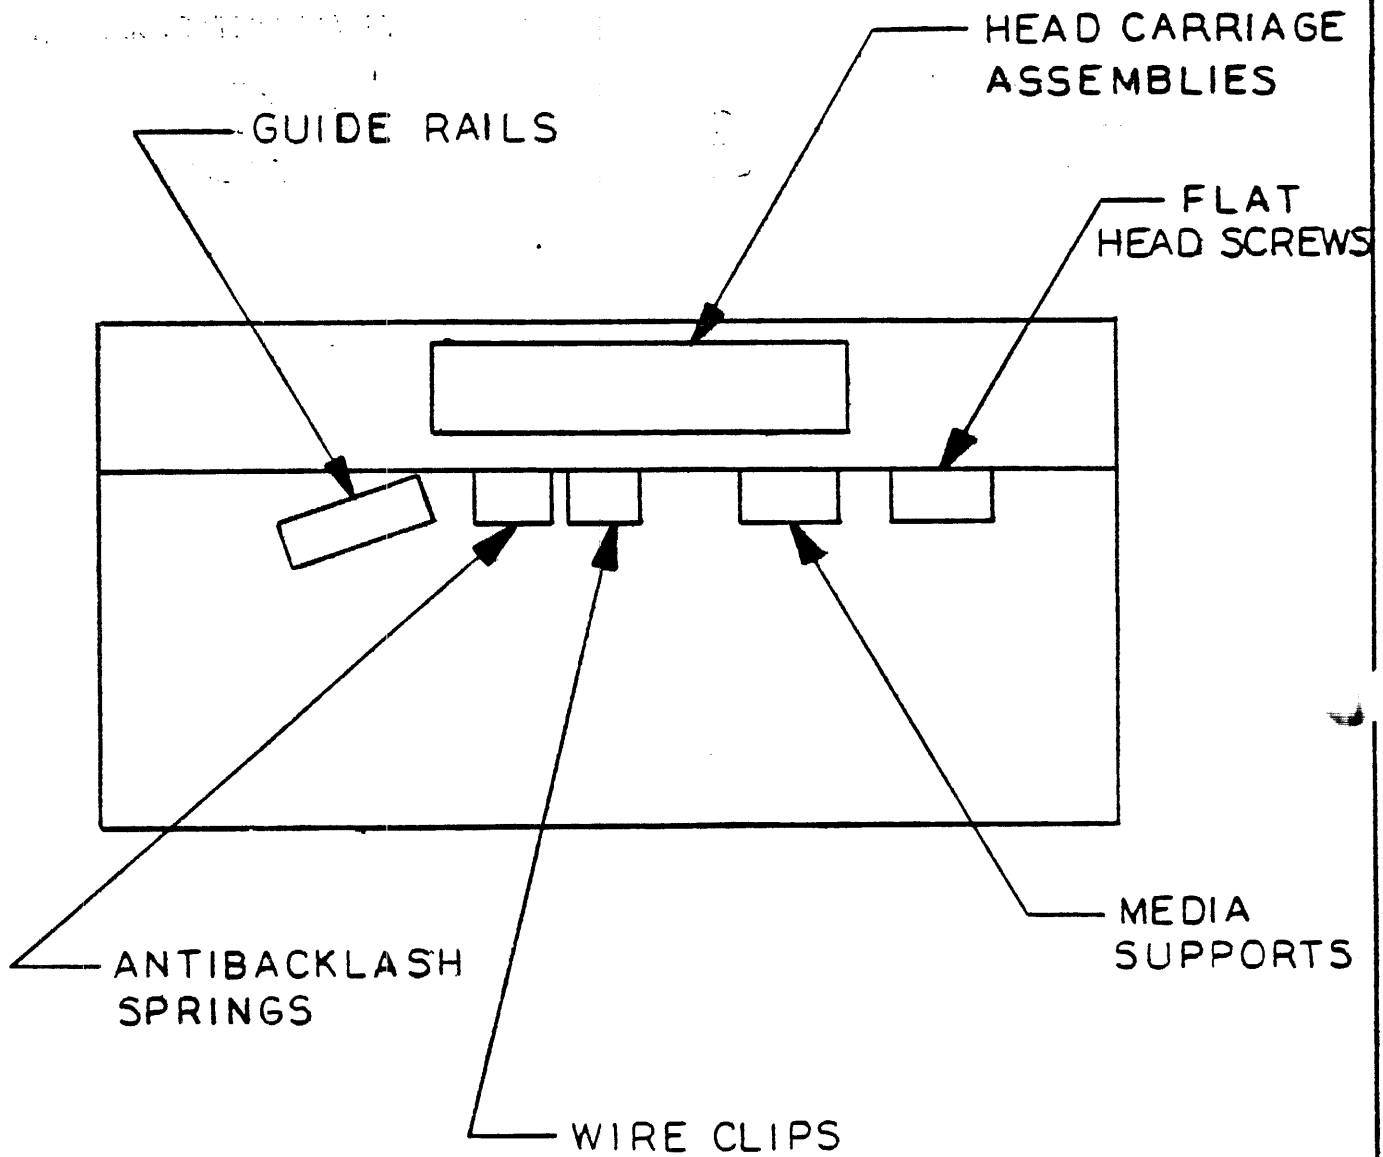

FIGURE 1. THE LAYOUT AT ASSEMBLY STATION #3A
- 7.2.1 Place a calibration switch on the chassis as shown in Fig. 1, and line up the center of the slot in the switch bracket with the hole in the chassis. Place a plain washer on an allen-head screw (6-32 X 3/8 in.) and insert them through the bracket and into the hole in the chassis. Turn the screw four times, but do not tighten it.